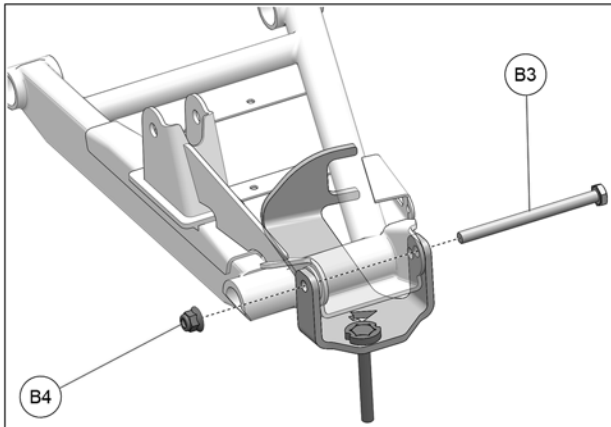

Fig. 10
9. Insert the new M10x130mm bolt (B3) through the anchor bracket, lower suspension arm and wheel hub. Tighten bolt to 50 N•m [37 lb•ft] of torque using provided M10 nut (B4). See Fig. 10